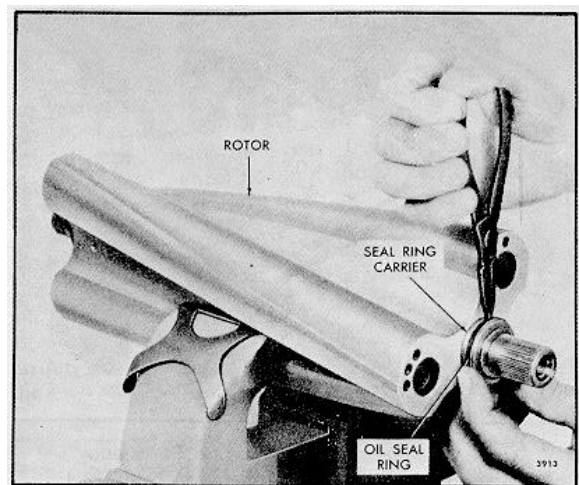

FIG. 7 - Removing Oil Seal Ring from Carrier
- a. Clamp one lobe of the rotor in a bench vise equipped with soft jaws (Fig. 7). Tighten the vise just enough to hold the rotor stationary.
- b. Remove the oil seal ring from the seal ring carrier on each blower rotor shaft with a pair of snap ring pliers as shown in Fig. 7.
- e. Install an oil seal ring in the ring groove of each carrier with a pair of snap ring pliers in the same manner as shown in Fig. 7.